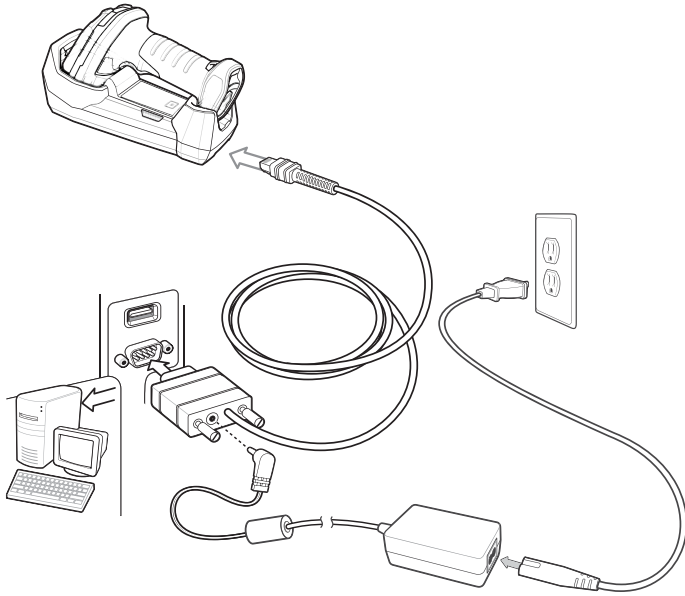

Figure 9-1 *RS-232 Direct Connection*
- ✓ **NOTE** Interface cables vary depending on configuration. The connectors illustrated in Figure 9-1 are examples only. The connectors may be different from those illustrated, but the steps to connect the cradle remain the same.